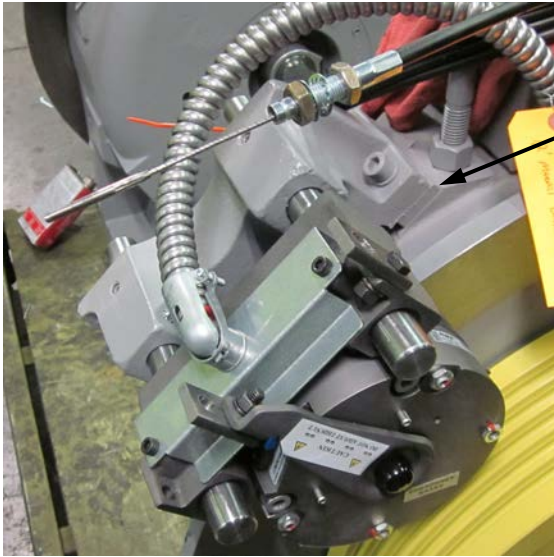

Figure 4
- Loosen all brake mount bolts. When removing mounting bolts take note to catch any shims under brake mounts, see “A” Figure 4. (if applicable) With brake and mounting assembly held remove last bolt. Move brake assembly to a working area.